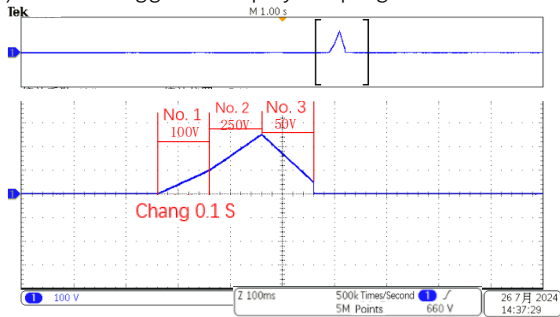

Figure 173 Wave Programming Waveform Example Diagram One
3) Click 'Trigger' to display the programmed waveform on the oscilloscope, see Figure 173.